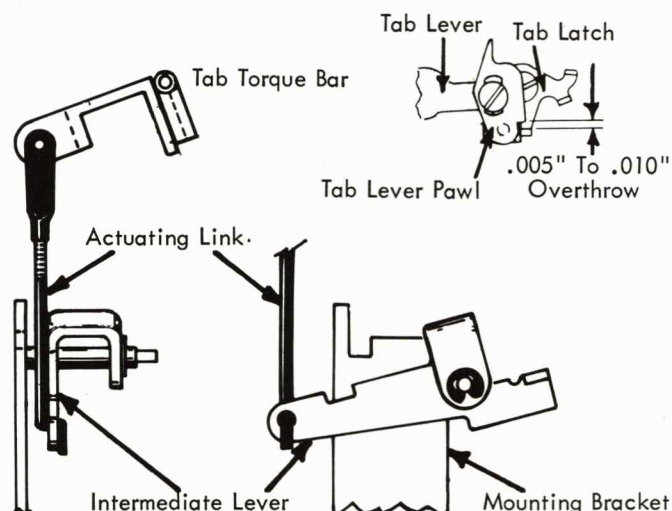

FIGURE 168. Actuating Link, Machine
10. Tab Lever Overthrow (Fig. 168) - With the tab cam on its high point, adjust the torque bar actuating link for .005" - .010" overthrow between the tab latch and tab lever.